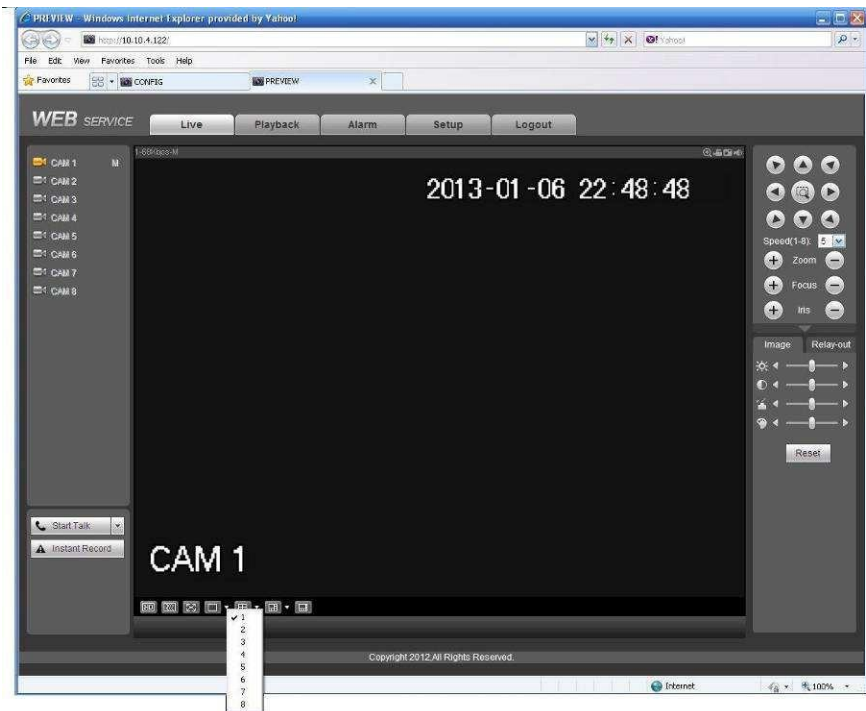

Figure 7-17
2) You can select different channel and different monitor mode at the bottom of the interface. See Figure 7-17.